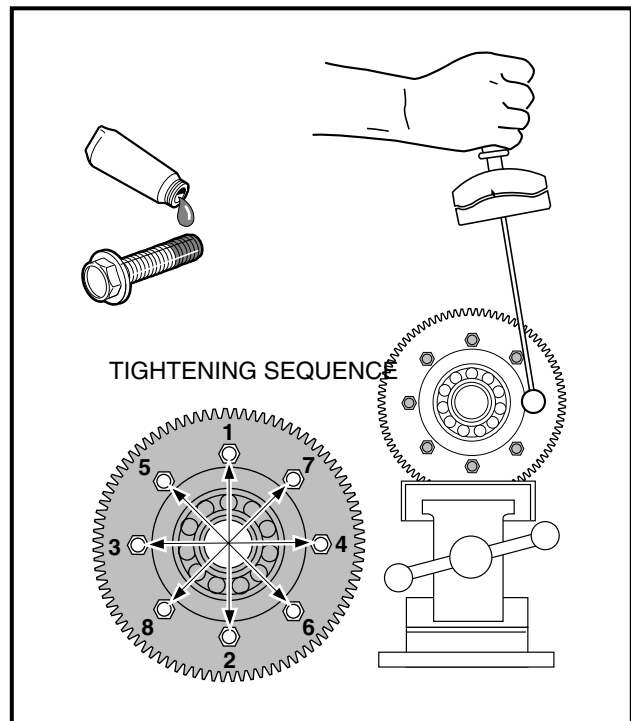

Figure 6-39 Retaining Bolts
- Apply Loctite 277® on the threads of the eight mounting bolts and install them through the ring gear, carrier case, and carrier case cover. Tighten the bolts to 18 ft-lb (24.4 N·m) in the sequence shown (Figure 6-39, Page 6-19).